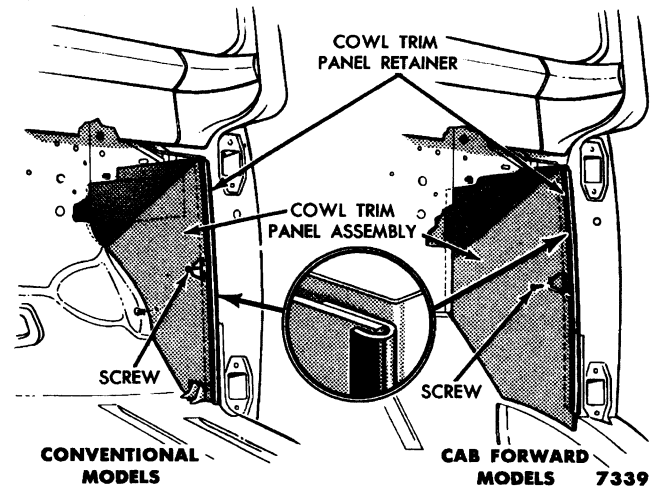

Fig. 10—Cowl Trim Panel Installation
(3) **COWL TRIM PANEL.** The cowl trim panel is secured to the cowl side by a retainer (fig. 10). The retainer is secured to the hinge pillar with self-tapping screws. The holes in the retainer are elongated to permit adjustment. The retainer should be adjusted so that it is flush with the face of the door hinge pillar.